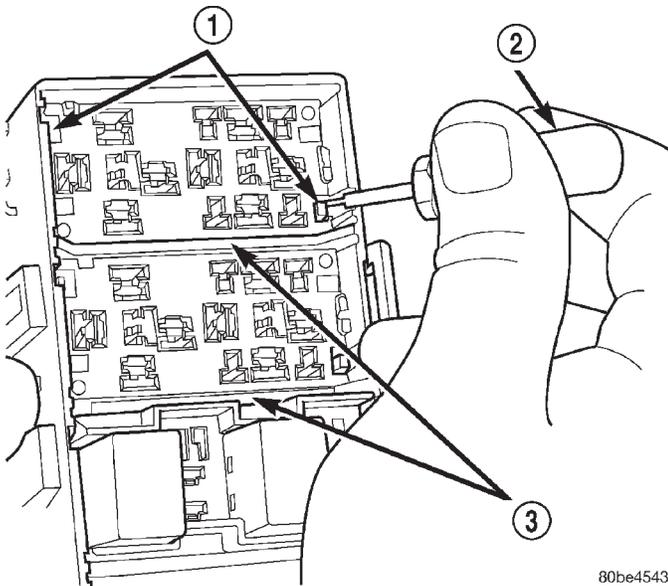

Fig. 13 PDC Relay Cassette Latches
(2) From the top of the PDC housing, use a small screwdriver or a terminal pick tool (Special Tool Kit 6680) to release the two latches that secure the relay cassette in the PDC (Fig. 13).